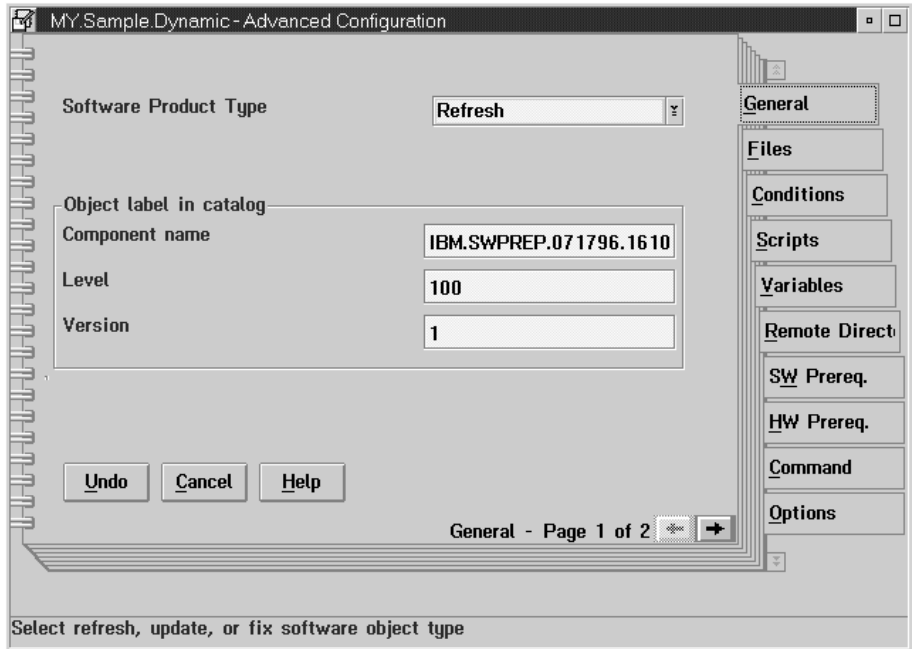

Figure 85. My.Sample.Dynamic - advanced configuration: general page
- 2 Open the My.Sample.Dynamic - Advanced Configuration notebook, as shown in Figure 85 on page 173.